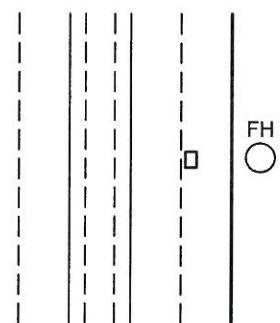

FIGURE 5
C. STREETS WITH CONTINUOUS TWO-WAY LEFT TURN LANE: MARKERS SHOULD BE PLACED SIX INCHES FROM THE EDGE OF THE PAINTED YELLOW BARRIER LINE ON THE SIDE NEAREST THE FIRE HYDRANT (SEE FIGURE 5)